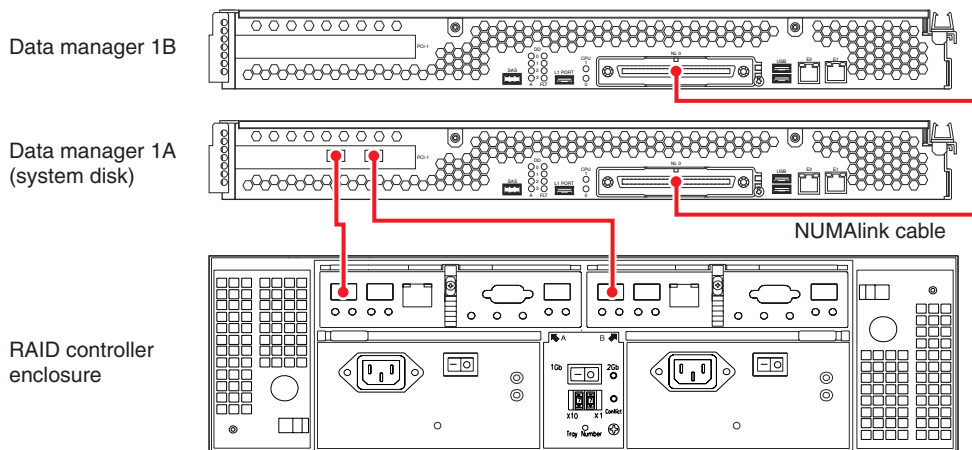

Figure 1-5 Two-Module Data Manager, Dual Controller RAID Enclosure Cabling
Use the following steps and Figure 1-5 to cable a NAS 330 with a two-module data manager and a two-controller RAID enclosure.
1. Connect the first Data Manager's Fibre Channel PCI card port A (blue label [1A]) to RAID controller A's port 1 (blue label [1A]) on the controller enclosure, see Figure 1-5.